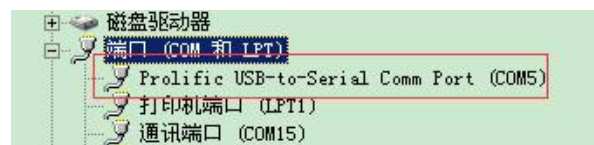

Figure 6-1 COM Port Prompt
2. Connect the computer and flow meter using USB (or 232) to 485 port (after successful connection, you can find the COM slogan in My Computer → Properties, as shown in Figure 6-1).
3. Double click the icon  to open the software, adjust the baud rate to 9600, the communication address to 1, and the COM is the same as Figure 6-1. After setting up, click 'Start Communication'. The successful communication screen is